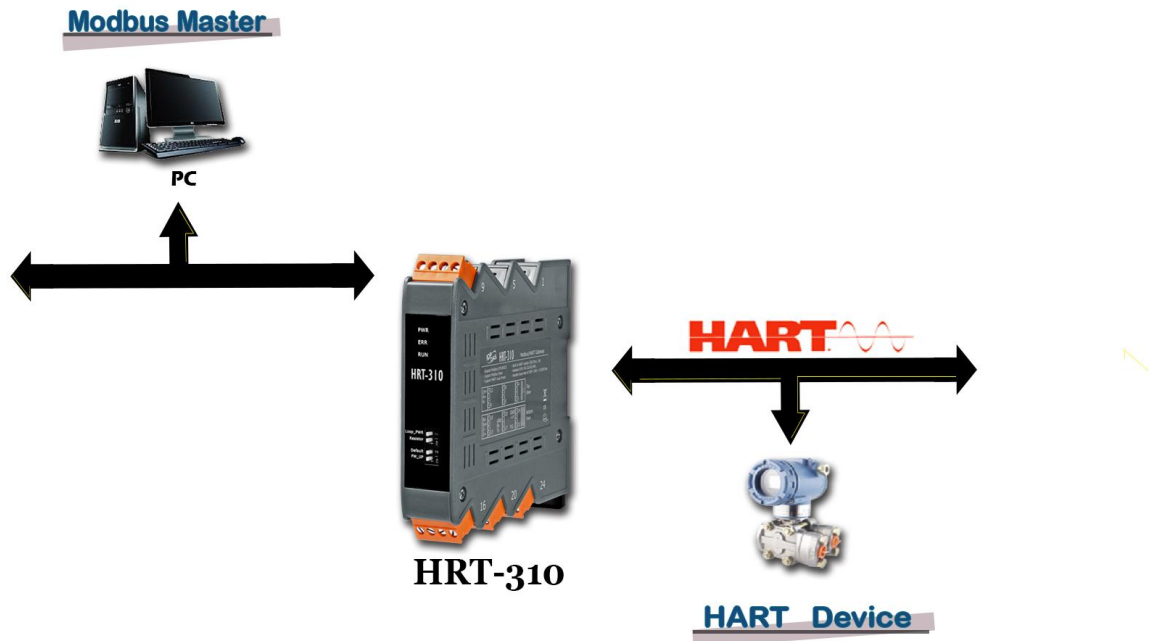

Figure1 : HRT-310 Application Structure
Step 1: Connect PC, HRT-310 and HART slave device according to figure1.